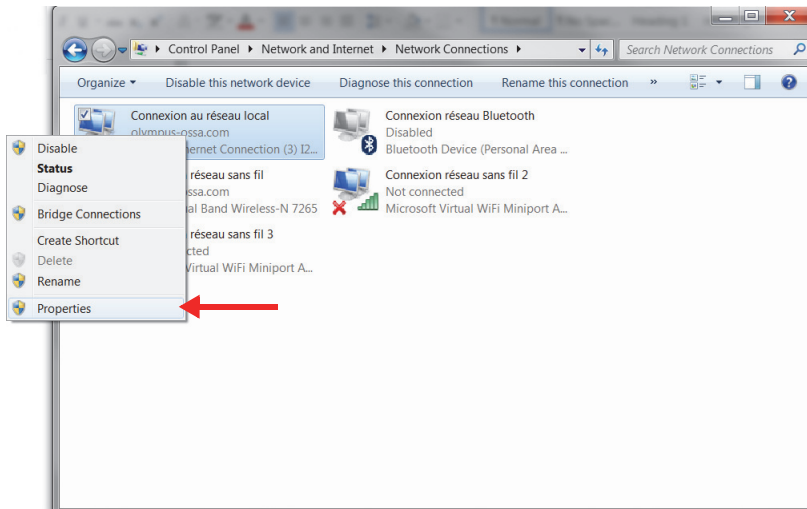

Figure 1-6 Selecting Properties
2. Right-click the network connection used to connect to the FOCUS PX unit, and then click **Properties** (Figure 1-6 on page 27).